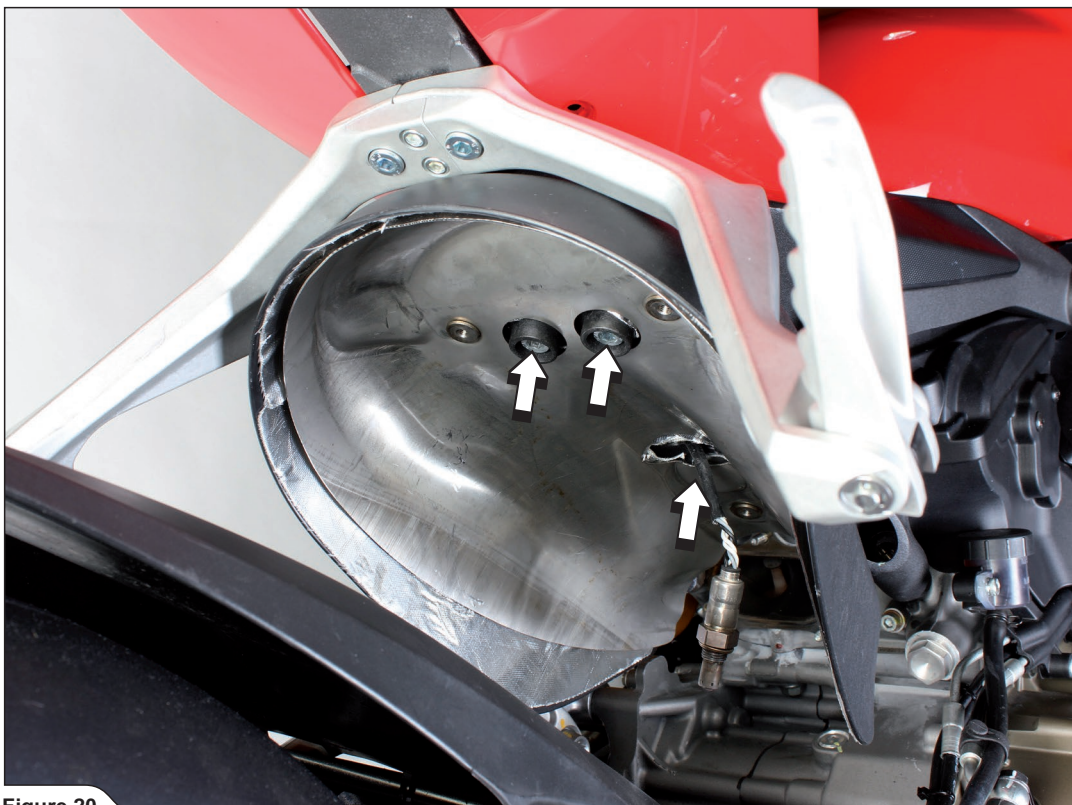

Figure 20
16. Unscrew the marked bolts and remove the heat shield (Figure 20). For use without passenger's foot rests only: unscrew the passenger's foot rests off the motorcycle.